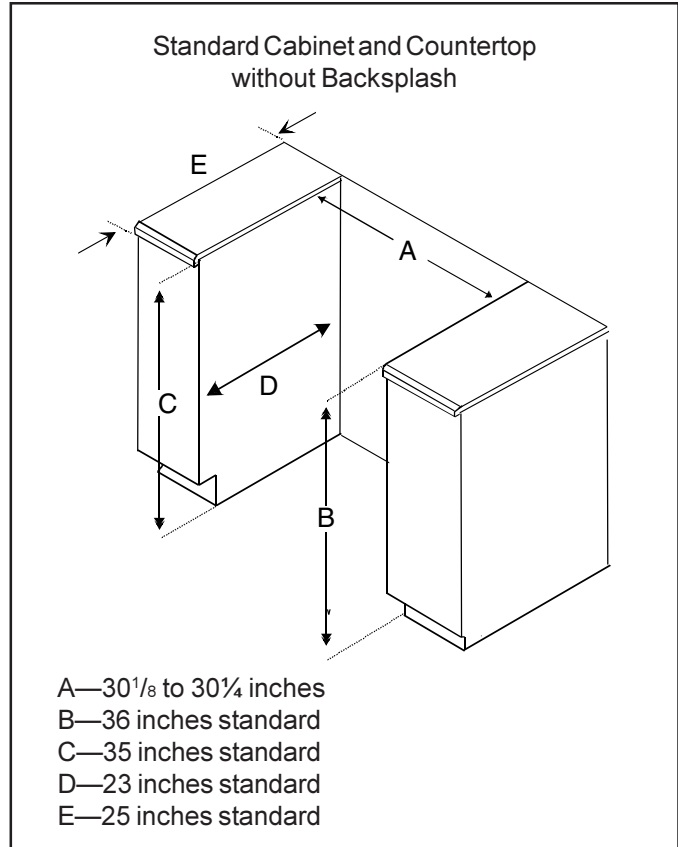

Figure 2
- Measure  $1\frac{3}{4}$  inches when installed without backsplash. See Figure 2.